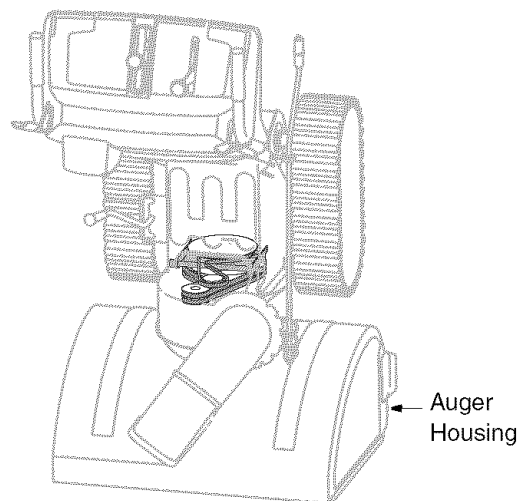

Figure 18
4. Tip the snow thrower up and forward so that it rests on its auger housing. See Figure 18.